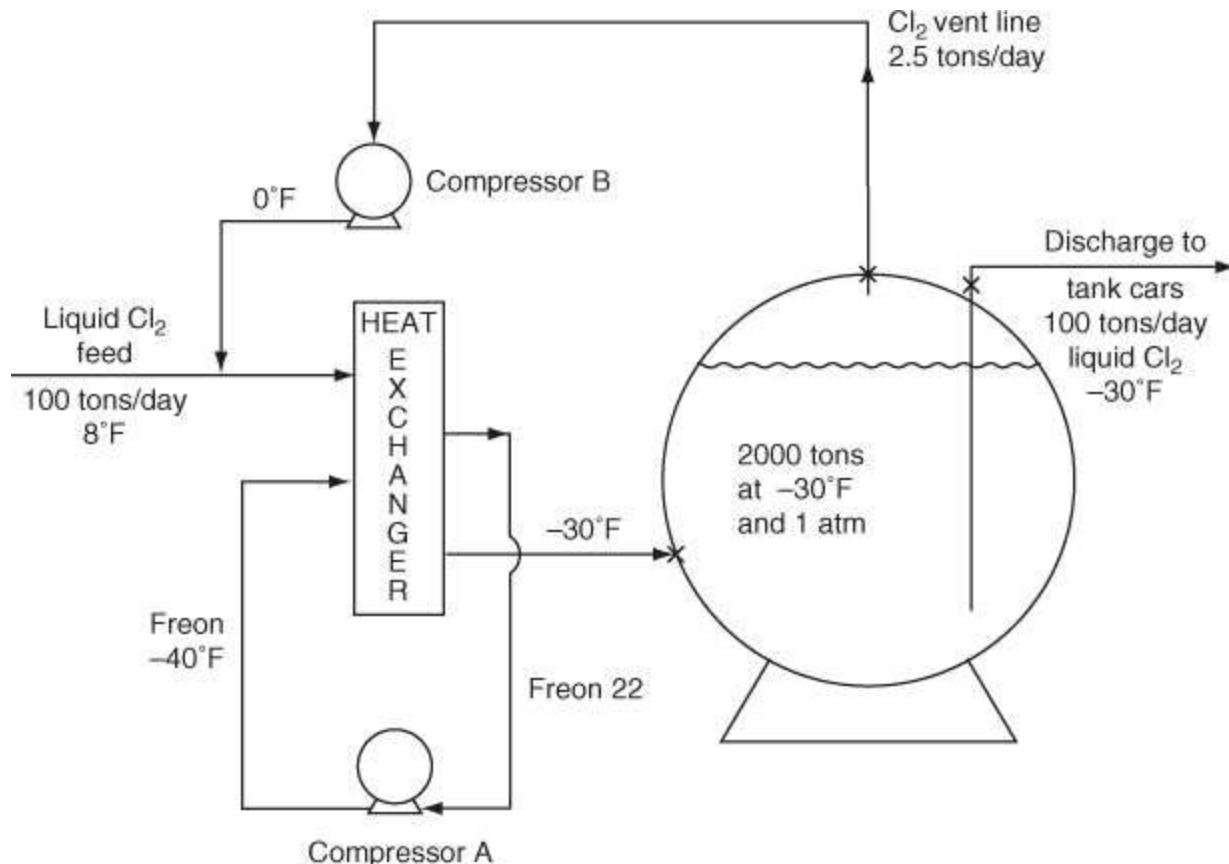

Figure P9.3.48
****9.3.48. A proposal to store Cl_2 as a liquid at atmospheric pressure was recently in the news. The operation is shown in Figure P9.3.48.